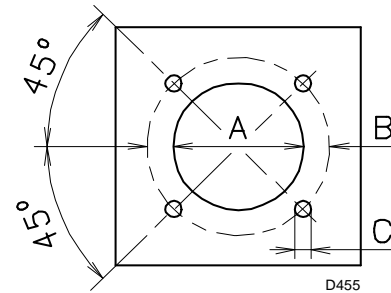

Fig. 11
Drill the combustion chamber locking plate as shown in Fig. 11. The position of the threaded holes can be marked using the thermal screen supplied with the burner.
- Insert the entire burner on the boiler hole, previously fitted, as in Fig. 11, and fix it with the screws supplied.